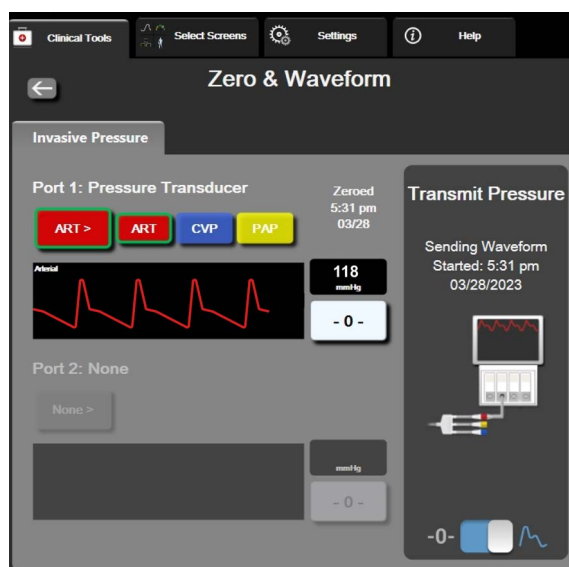

Figure 10-2 Zero & Waveform screen – Zero sensor and Pressure-Out
- 6 Toggle to the **Transmit Waveform** icon  to begin pressure signal output to the patient monitor. A “**Sending Waveform Started:**” message with the timestamp is displayed when the live waveform is being transmitted to the connected patient monitor. See figure 10-2 on page 197.